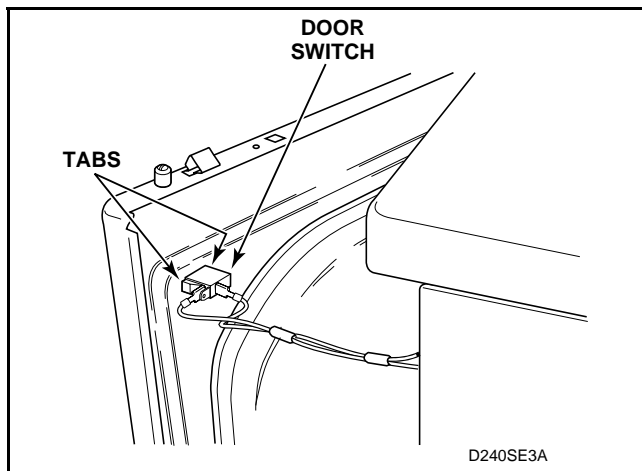

Figure 15
- j. Disconnect wires from door switch. See *Figure 15*.